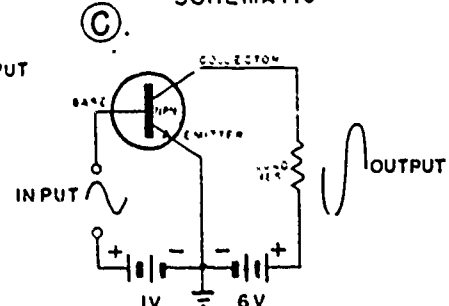

Figure 1-11. Electron-tube and transistor amplifier.
across the load resistor. The increase in amplitude between input and output signals is known as the gain of the amplifier. An electron-tube amplifier stage is shown in A of figure 1-11.
(2) A transistor amplifier comparable to an electron-tube amplifier is shown in B of figure 1-11. The schematic of the same amplifier is shown in C of that figure. The varying input signal results in a varying output voltage across the load resistor. The amplitude of the output signal is greater than that of the input signal; therefore, amplification has been accomplished.